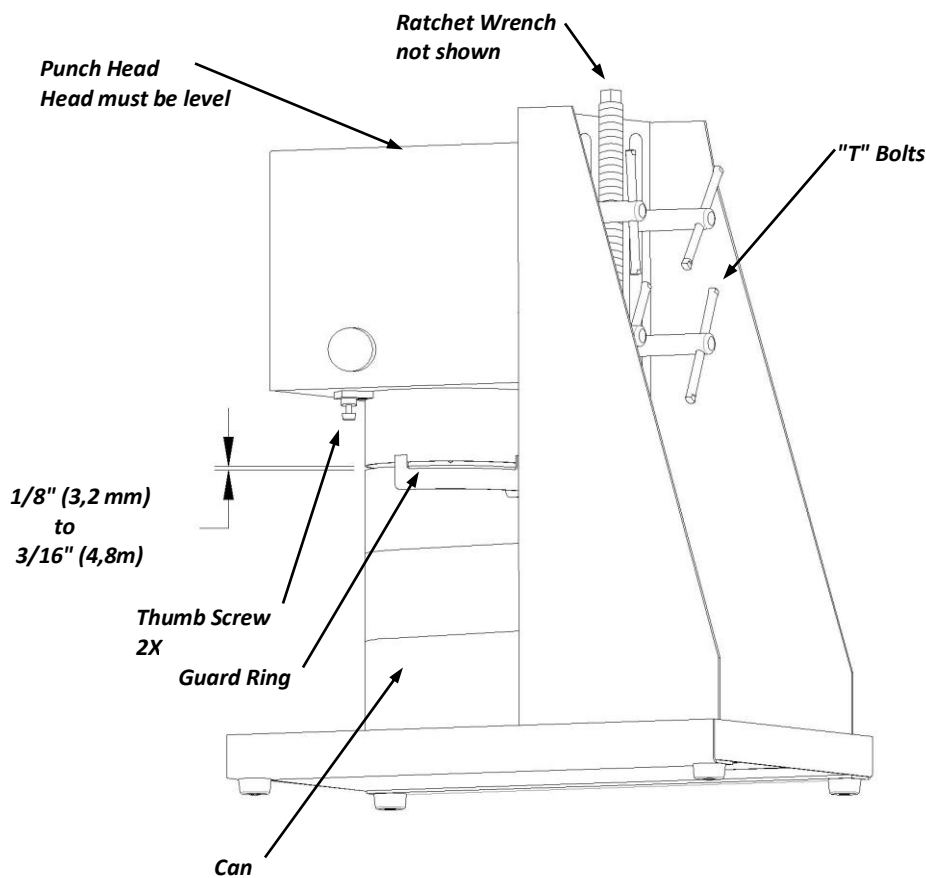

Figure 3
3. Ensure the "T" handles are tight. They are located behind the head of the crown punch machine. The height, with the guard ring in place, must be such that when a can is in position under the crown punch, from the can seam to the lip of the guard ring is approximately 1/8 (3,2mm) to 3/16 (4,8mm), (Figure 3 On page 8).
2. Loosen the four (4) "T" bolts at the rear of the vertical (Figure 3) and raise or lower the Head as needed, keeping the can and guard ring aligned and level.
1. With one hand, hold up on the guard ring (Figure 3 on page 8) and with the other hand, unscrew the two (2) Thumbscrews (Figure 3 on page 8).
Remove the splash guard, crown punch, guard ring, and retainer clip (Figure 3 on page 8) after every use for cleaning. You may rinse down the entire machine with soap and water to remove any residue from the unit.